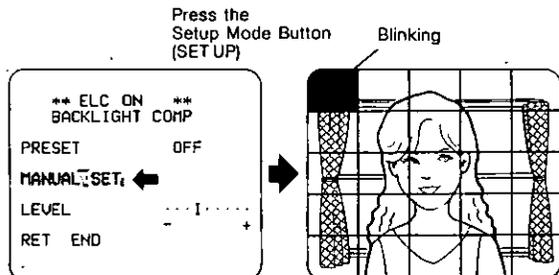

Fig. 58
- Move the cursor to the "MANUAL SET" mode position and press the Setup Mode Button (SET UP). The 25 Mask Areas appears on the monitor screen as shown in Fig. 58. The left top area starts blinking as a cursor.